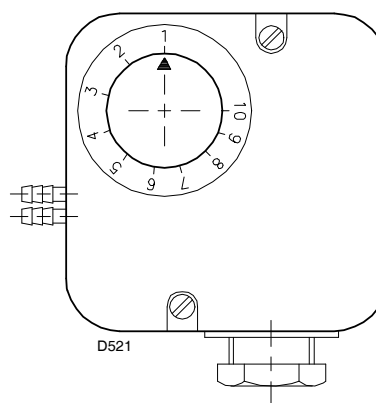

Fig. 33
- Adjust the air pressure switch to the zero position of the scale (Fig. 33).